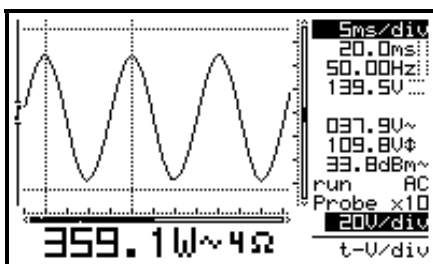

Fig 9
**Short press:** Use the left/right cursorkeys to select one of the 5 screen layouts. (See fig.9 to 13)